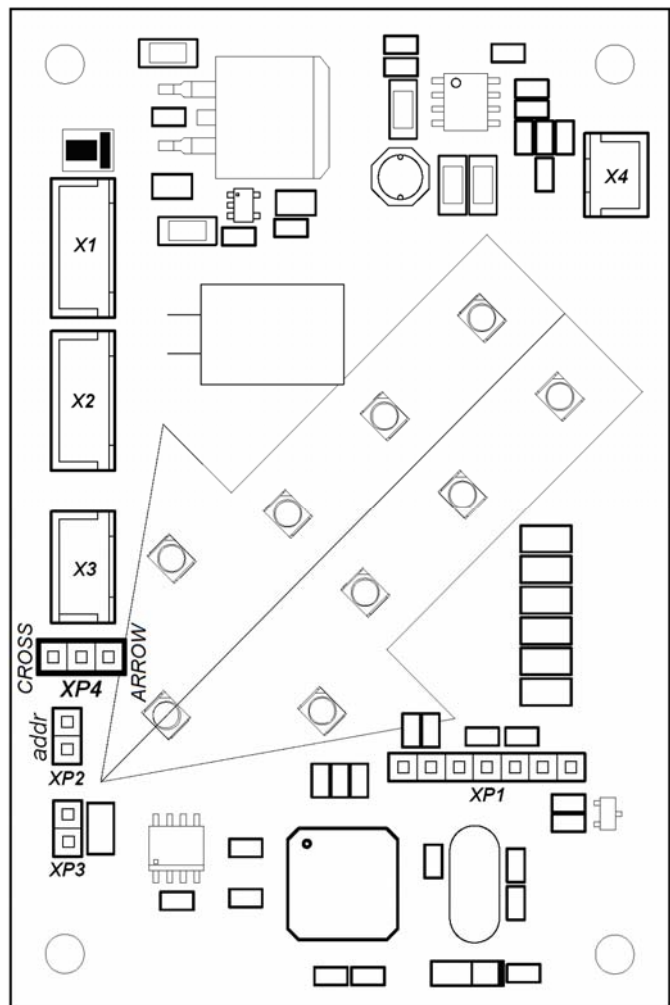

Figure 22. Indication module configuration
26. Install the front panels of the side sections at their places (8) (Section 8.8.2). After finishing the installation check if the upper end of the installed front panel is located on the same level with the turnstile housing. Panels with front end indication module are installed from that side of the section, at which the top cover indication modules are located. Pull the connecting cable from the turnstile top duct and connect it to the front end indication module.
27. To change the indication type on the front end indication modules to the «red cross» install the **XP4** jumper in the top cover indication module of this section (Sections 5.5.2, 8.8.3, the jumper positioning is shown at Fig. 22).
To access the turnstile top cover indication module (11) remove the glass top cover (10) (Section 8.8.7). In the Indication module under the diffused plate there is a board of passage indicator (Fig. 22).
To disassemble the indication module (e.g. to install the reader), after removing the diffused plate, disconnect the cables on the passage indication board from **X1, X2, X3** outputs (Fig 22) and with an S5 hexagon key, untwist four posts, fixing the indication module to the top duct.